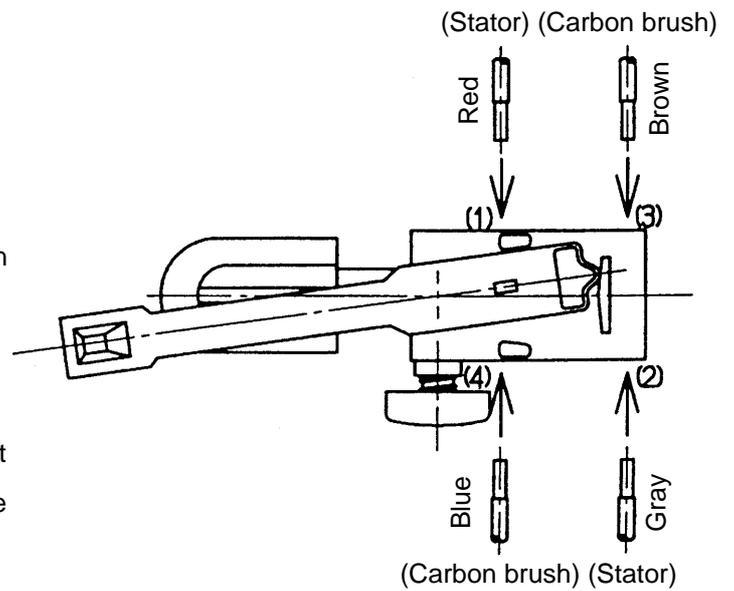

Fig. 5 Wiring of reversing switch
(1) Wiring of reversing switch
Insert the lead wire (red) coming from the stator into the terminal (1) of the reversing switch, and the lead wire (gray) into the terminal (2) as shown in Fig. 5. Insert the lead wire (brown) coming from the carbon brush into the terminal (3) and the lead wire (blue) into the terminal (4). After insertion, pull each lead wire slightly to check that the lead wires do not come off. To disconnect the lead wires, insert a small flat-blade screwdriver into the slots near the terminals and pull out the lead wires.